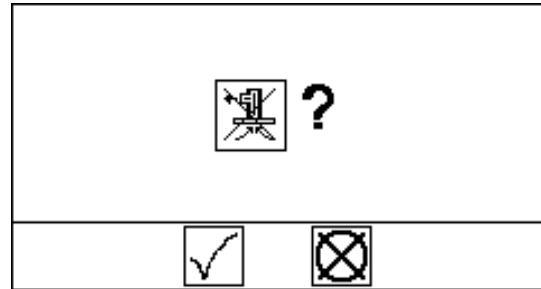

FIG. 13: Exit Prime Mode Confirmation
**NOTE:** To exit Prime Mode before the timer expires, press the Pump Prime key . The display prompts the operator to confirm. See FIG. 13. Select  to exit prime.
**NOTE:** To extend the prime time counter, select  in FIG. 13. Display prompts operator to confirm.